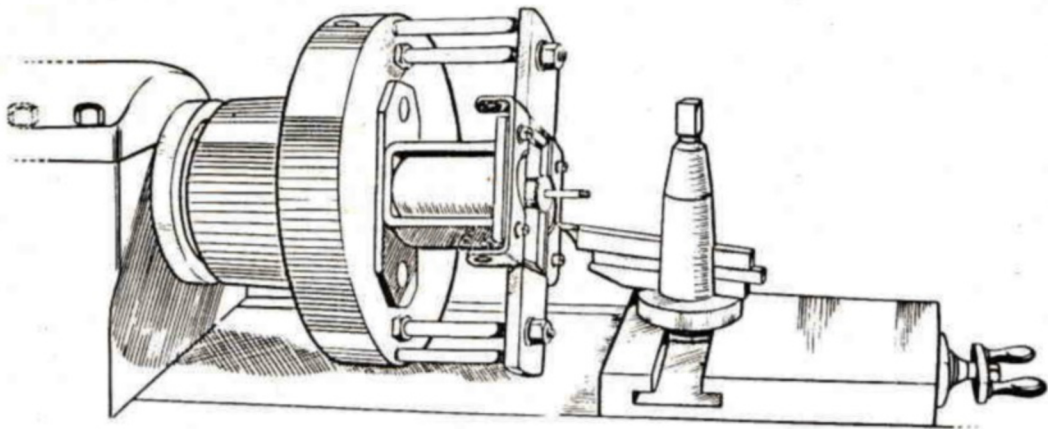

Fig. 11. Fixture for holding switch in a Lathe
The fixed contacts (45) can also be cleaned with spirit or very fine carborundum paper. If the contact faces are badly burnt or pitted they should be refaced on a lathe while still in position on the switch. A maximum of 0.5 mm should be removed and if this is insufficient to remove all traces of burning and pitting, the contacts should be renewed. As new contacts are supplied in an unmachined state, they must be assembled to the switch and faced on a lathe before being placed in service. A simple fixture for holding the switch in the lathe is shown in Fig. 11.